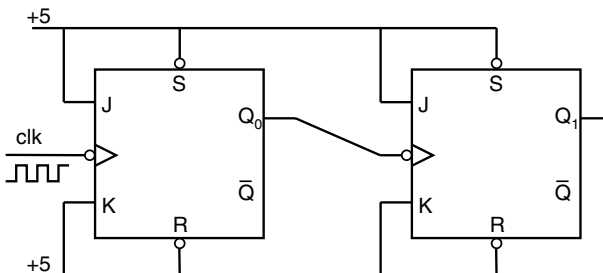

Fig. 11.7. Divide-by-four ripple counter.
- ▷ First make the two-bit *asynchronous* or 'ripple' counter shown in Fig. 11.7. (This circuit is asynchronous in that it does not have a common clock signal for all flip-flops.) Clock it from a push-button while looking at the two Q outputs with logic indicators, and verify that it divides by four, i.e., that the output square wave changes state at $\frac{1}{4}$ the frequency of the input clock. Write down its state diagram.